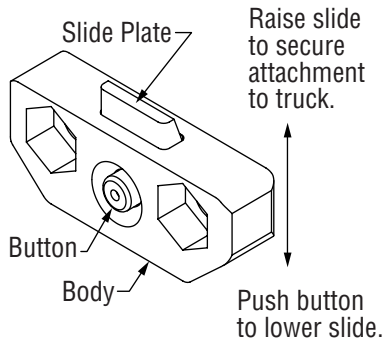

Figure 4-1, Quick Change Hook
3. Slightly raise the truck carriage to allow the removal of the bottom mounting hooks. If the attachment is equipped with quick change hooks, simply press the slide plate release button and drop the slide plate down. (Figure 4-1)